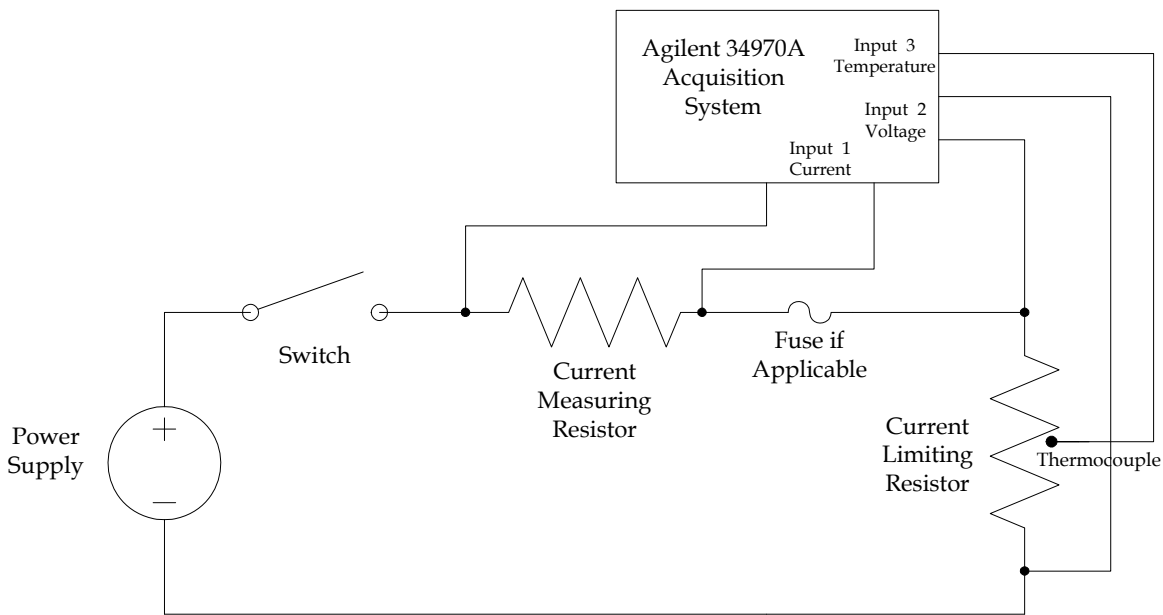

Figure 1
- 7.6. Connect a power supply of 1.5 times the maximum fault voltage across the current limiting resistor and fuse (if applicable). See Figure 1.